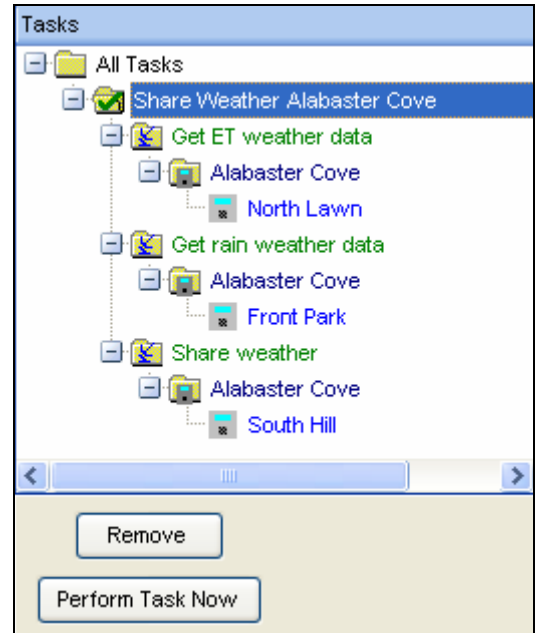

Figure 12.2.5
- Then left click on the controller holding down the mouse button drag and drop the controller(s) into the **Share weather** folder (Figure 12.2.5).